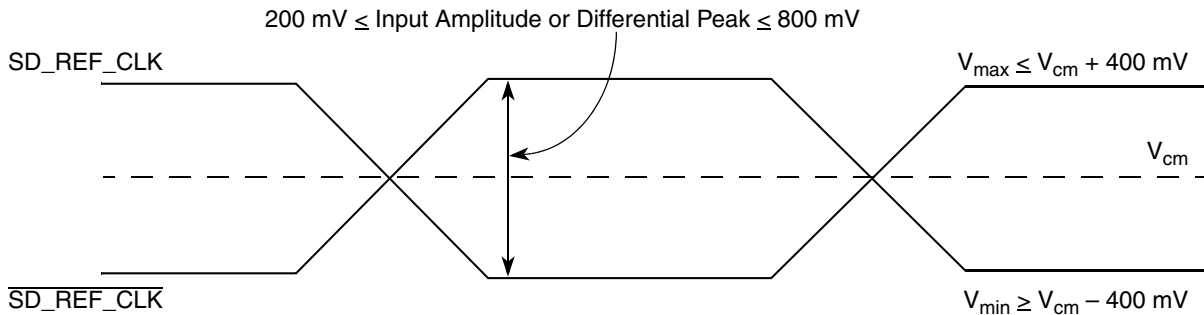

Figure 41. Differential Reference Clock Input DC Requirements (External AC-Coupled)
- For external AC-coupled connection, there is no common mode voltage requirement for the clock driver. Since the external AC-coupling capacitor blocks the DC level, the clock driver and the SerDes reference clock receiver operate in different command mode voltages. The SerDes reference clock receiver in this connection scheme has its common mode voltage set to SGND_SRDS n . Each signal wire of the differential inputs is allowed to swing below and above the command mode voltage (SGND_SRDS n). Figure 41 shows the SerDes reference clock input requirement for AC-coupled connection scheme.